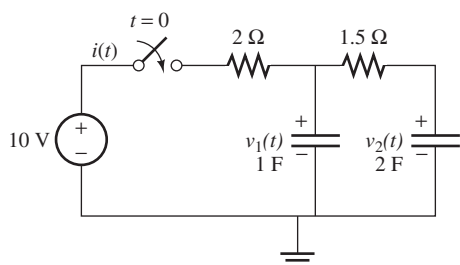

FIGURE P5.47 Circuit for Problem 5.47.
- 5.47 (H) Consider the circuit shown in Figure P5.47. The switch closes at $t = 0$, $v_C(0^-) = 0 \, \text{V}$: